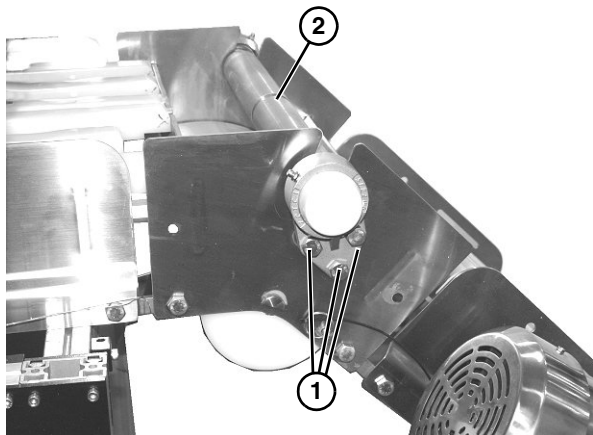

Figure 94
1. Remove three bolts (**Figure 94, item 1**) on each side, and remove spindle assembly (**Figure 94, item 2**) from knuckle.